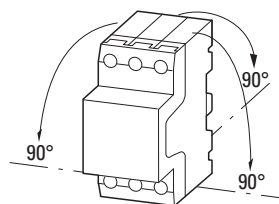

Figure 7: Approved mounting positions of the PKZM0-.../XTPR...BC1NL motor-protective circuit-breakers
- Mount the motor protective circuit breaker only as shown in → Figure 7.